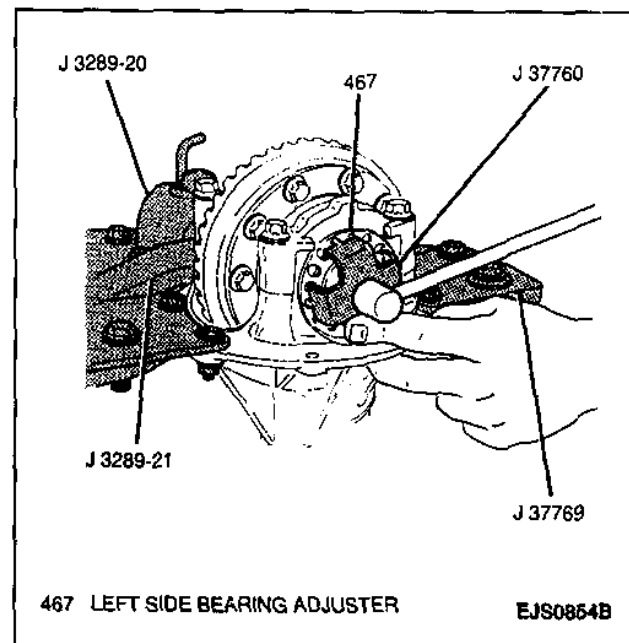

Figure 85—Adjusting Differential Backlash
3. Observe the J 8001 while moving the ring gear as described in step 2. Differential backlash should be within 0.203 to 0.381 mm (0.008 to 0.015-inch). If differential backlash is above specification, loosen the right adjuster approximately 1/4 turn and tighten the left adjuster 1/4 turn using the J 37760 (Figure 85). This will move the ring gear closer to the pinion gear causing a tighter mesh and less backlash. If differential backlash below specification, loosen the left adjuster 1/4 turn and tighten the right adjuster 1/4 turn using the J 37760. This will move the ring gear away from the pinion gear causing a looser mesh and more backlash. Use this procedure until the most accurate differential backlash is obtained.